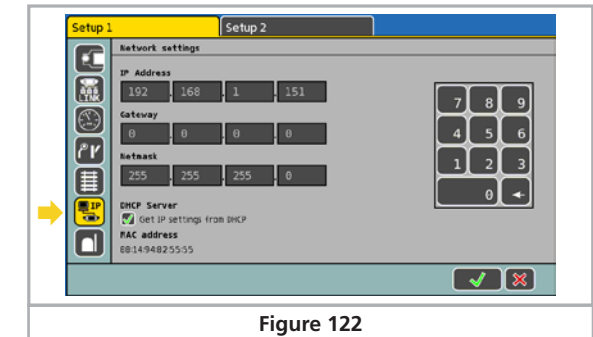

Figure 122
- Open the network set-up as per Figure 122.